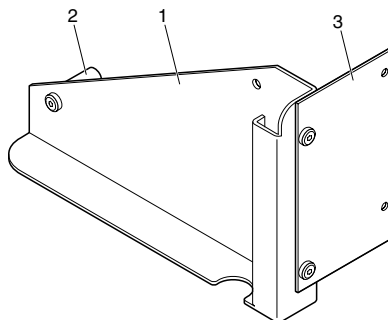

Figure 3:
It consists of a display holder (1), a spacer (2), and a side plate (3) (Figure 3).